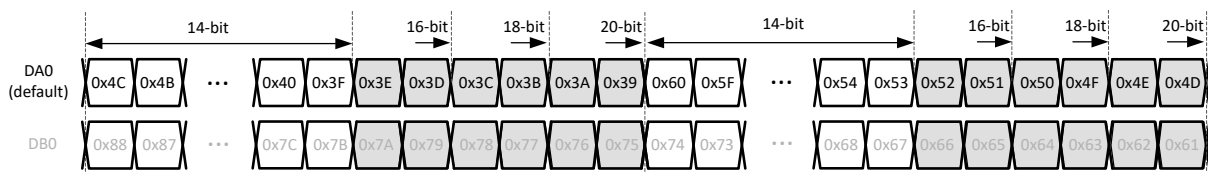

图 8-39. 1/2-wire output bit mapping
**1/2-wire mode:** The output is only lane DA0 and the sample order is programmed into the 40 addresses of chA (from 0x39 to 0x60). It covers 2 samples (one for chA, one for chB) as shown below. If desired, it can be duplicated on DB0 as well (using addresses shown 图 8-39) in order to have a redundant output. Lane DB0 needs to be powered up in that case.